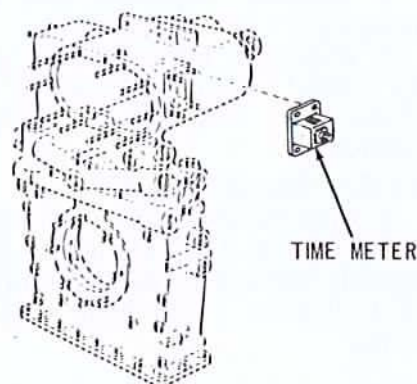

Figure 3-292. Engine time meter - exploded view.
*b. Test.* Test the totalizing meter to be sure it is functioning properly by connecting the meter electrical connection (fig. 3-292) to a 24 volt electrical system. The time totalizing meter is calibrated to record the electrical impulse in tenths of an hour and will numerically record every six minutes. Allow sufficient passage of time to be certain hour counter is performing properly.